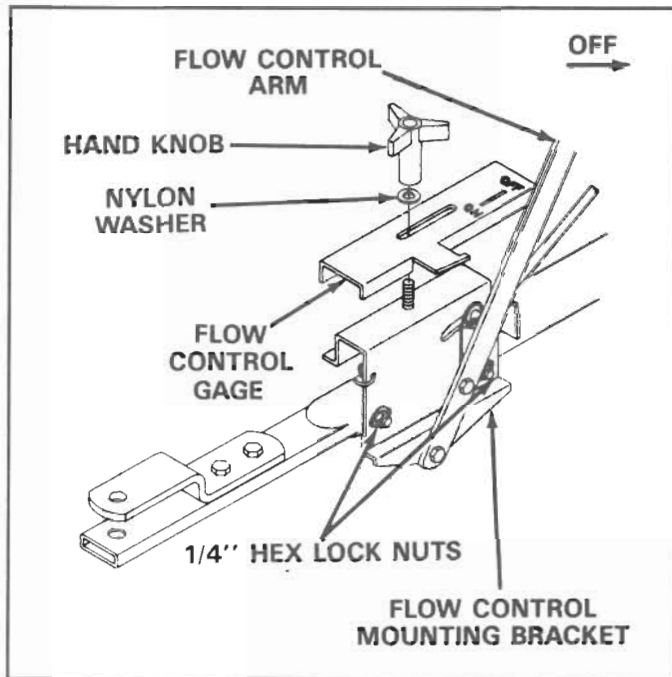

FIGURE 14
22. Assemble the flow control gage onto the the flow control mounting bracket as shown in figure 14. Secure with nylon washer and hand knob.
23. Move flow control arm to off position and slide flow control mounting bracket toward hopper until closure plate (located in bottom of hopper) is completely closed. Tighten 1/4" hex lock nuts assembled in step 21. See figure 14.